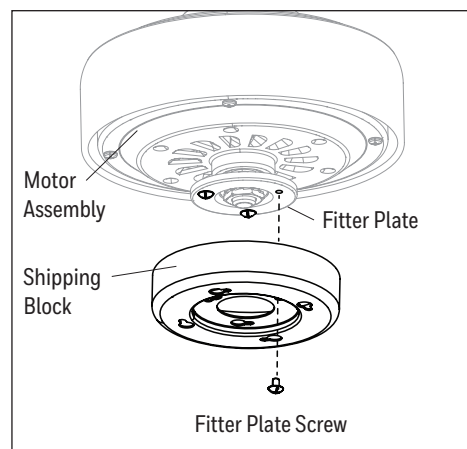

Figure 2.3
3. Remove one of the three fitter plate screws preassembled to the fitter plate and loosen the other two but do not remove. Turn shipping block counter clockwise and remove. Discard the shipping block, but save the fitter plate screw for later (Figure 2.3).